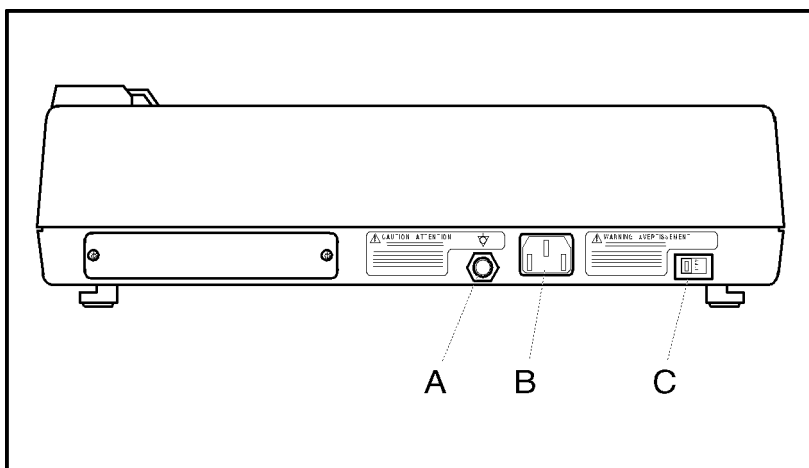

Figure A-1: Rear View of Cardiograph
1. Locate the voltage select switch on the back of the cardiograph. See Figure A-1 for the location of the switch.
3. Remove and discard the label covering the AC power receptacle. See Figure A-1 for the location of the AC power receptacle. You are required to remove the label as a reminder to check the setting of the voltage select switch.
Figure A-1 shows the location of the equipotential connector. Refer to the Patient and Operational Safety Notes in Getting Acquainted for more information about using the equipotential connector.